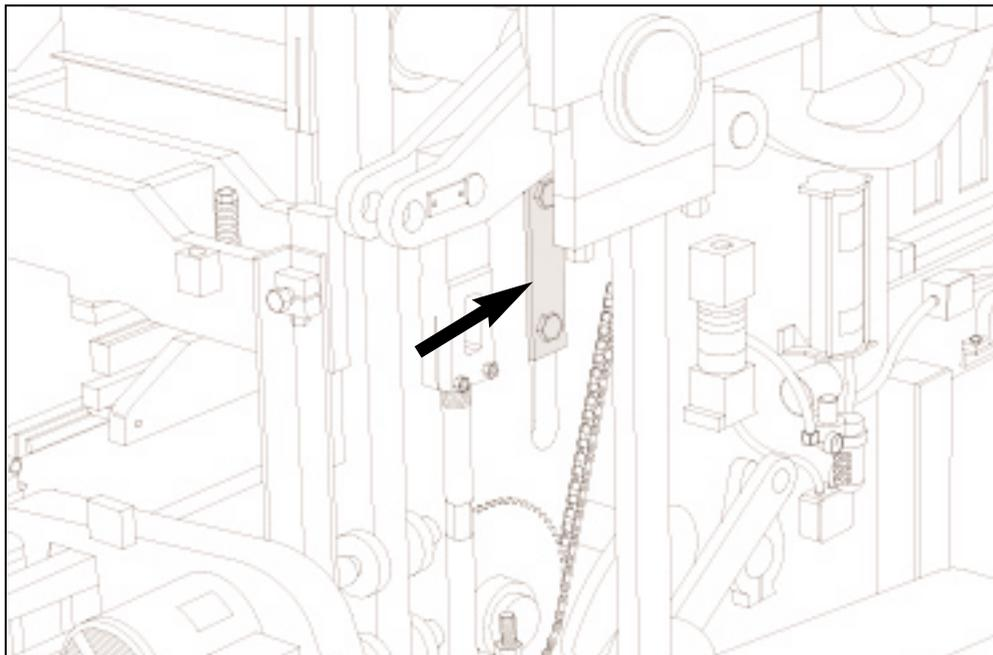

Figure 4.49 LOOSEN "T" CLAMPS ON BOTH SIDES.
- a. Loosen the "T" clamps on each side of machine that secure machine side plate to mold throat plate. (figure 4.49).